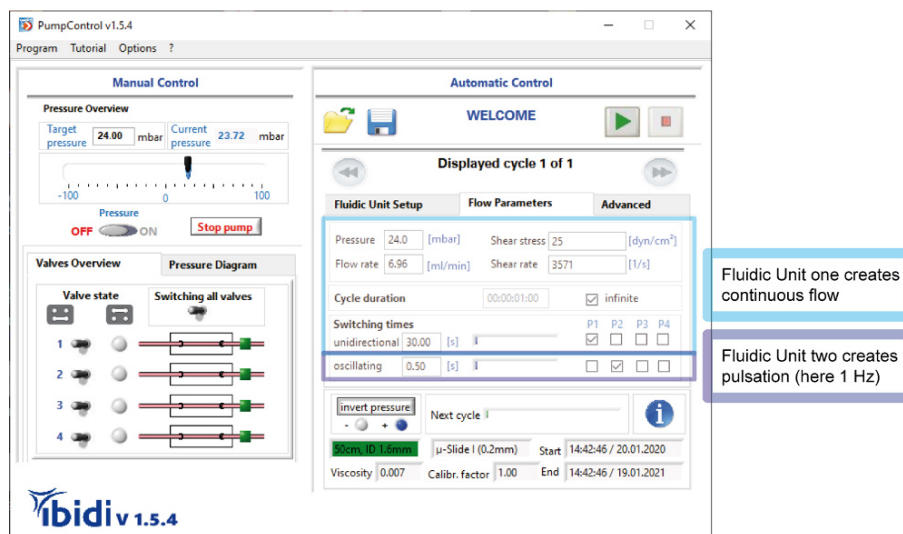

Figure 46: PumpControl example setting for pulsatile flow.
6. Run the second Fluidic Unit in the PumpControl software as an oscillating Unit. This way you can select the switching time in the range of 0.2 s – 5 s which results in pulsation periods of 0.4–10 s. This in turn corresponds to frequencies of 2.5–0.1 Hz. Compare with Figure 46.